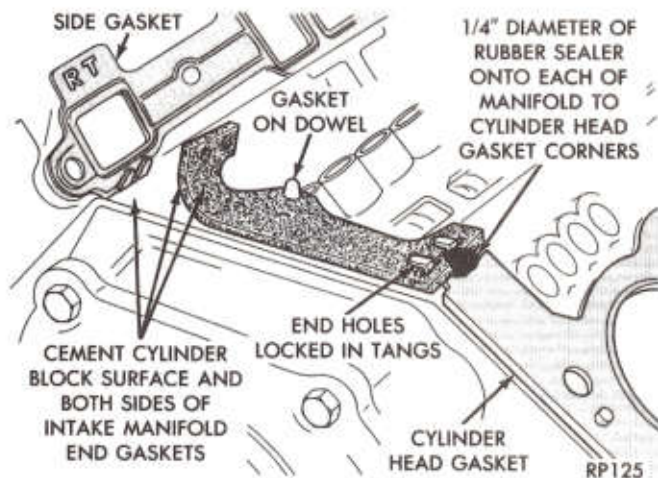

Fig. 9—Intake Manifold "End" Sealing
(4) Coat intake manifold side gaskets lightly with sealer. Part Number 4318035, or equivalent.
(5) Install side gaskets to cylinder head.
(6) Clean cylinder block front and rear gasket surfaces using suitable solvent (Fig. 9).
When installing gaskets, the center hole in the gasket MUST engage dowels in block. End holes in seals MUST be locked into tangs of head gasket (Fig. 9).